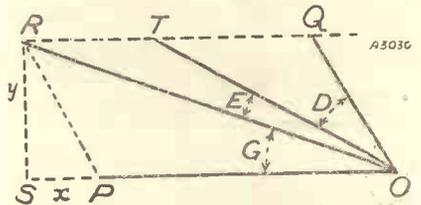

FIG. 2
Let us then redraw the Fig. 1 as in Fig. 2 and let $RS = y$ and $SP = x$. Then it is clear that $y/x = \tan 2D$, and $y/(x + E_1) = \tan G$ and $y/(x + E_2) = \tan D$. Inserting these values in equation (5), we find easily that